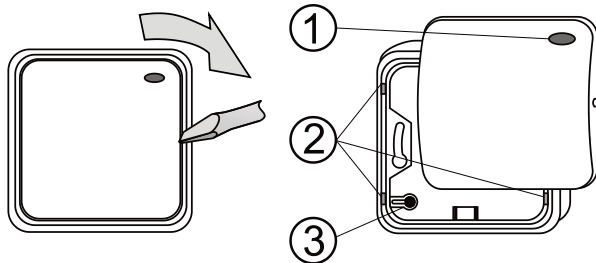

Figure 1 – LED indicator visor, 2 – Base plastic tabs, 3 – Permanent magnet
1. Open the movable cover (by a screwdriver from the side, see figure 1).
2. Release the bottom plastic base by pressing the 4 tabs in the corners (2).
4. Assemble the PCB part into its plastic frame. If the plastic base is used, then it is necessary to move the permanent magnet (3) of the tamper contact from the plastic frame which holds the PCB to the receptacle on the plastic base.
5. Connect the BUS cable to the BUS terminals (7).